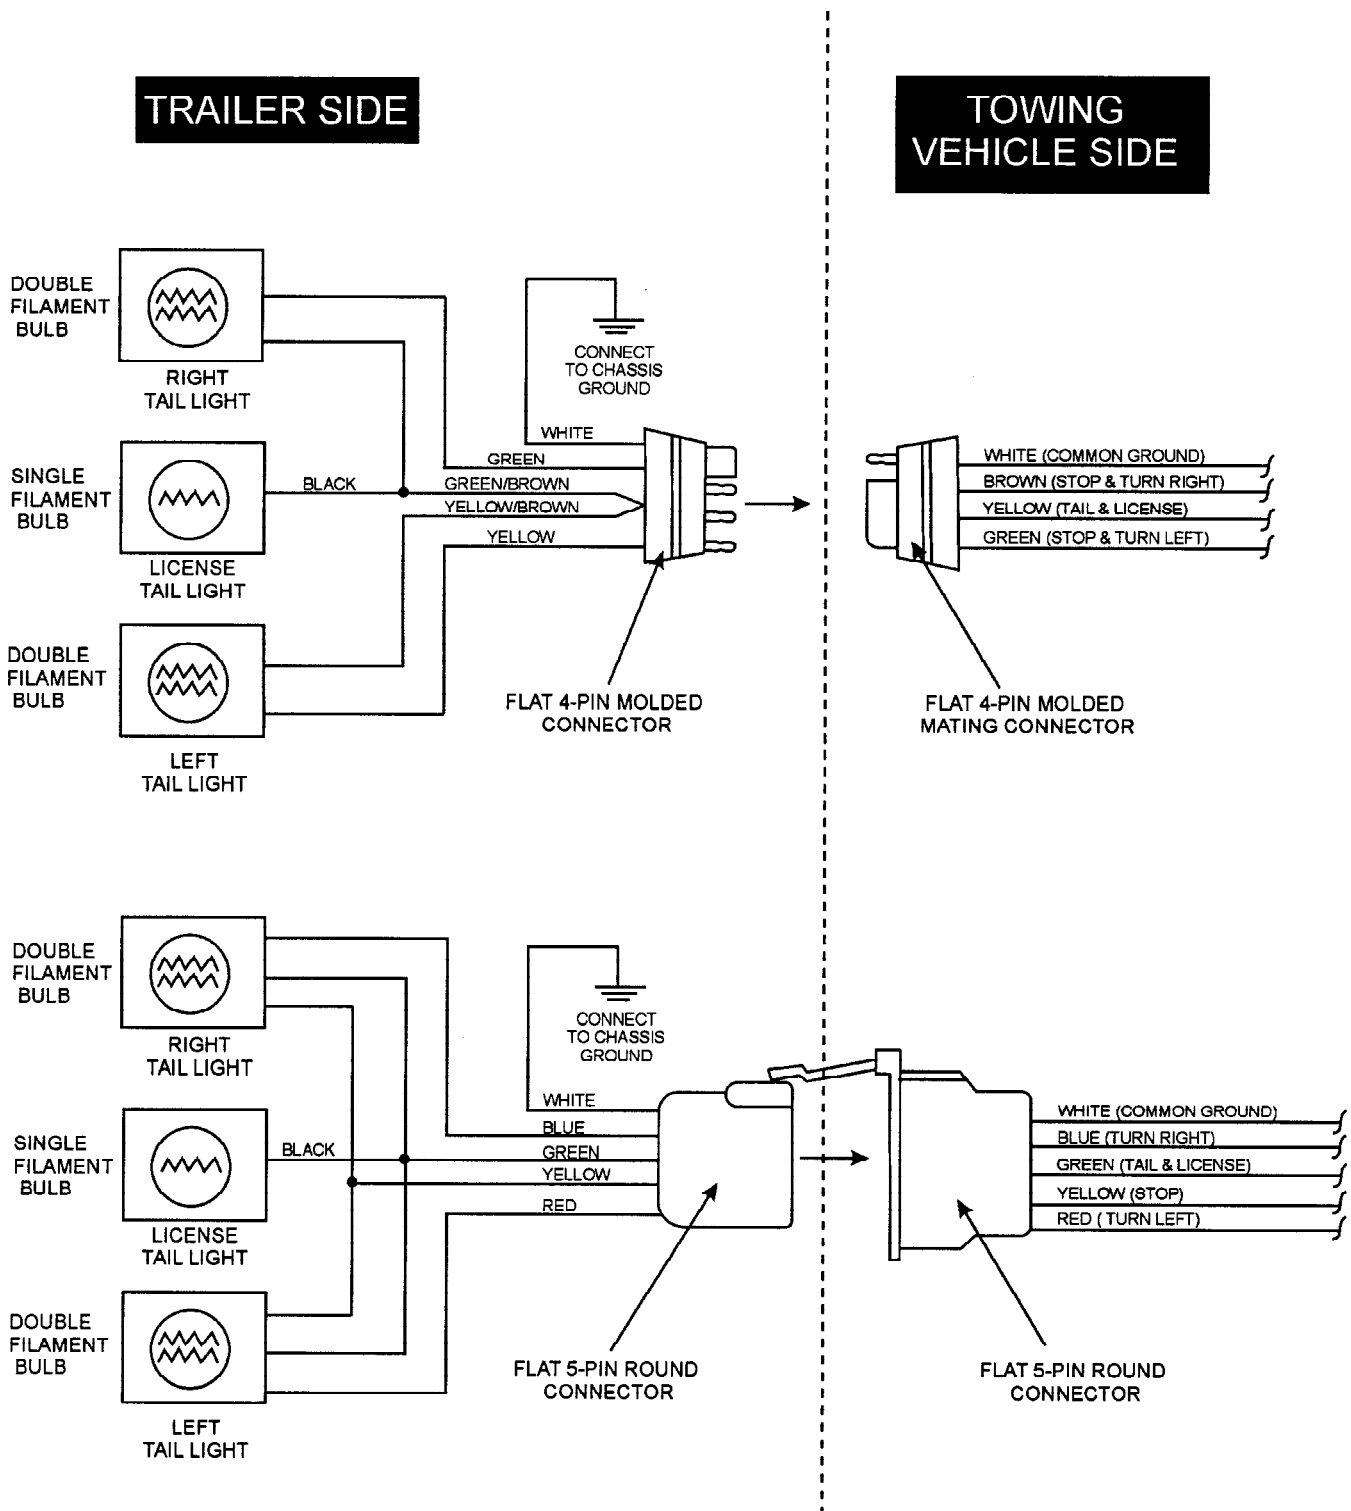

**Figure 3. Wheel Lug Nuts Tightening Sequence**
2. Torque all lug nuts in sequence. See Figure 3. **DO NOT** torque the wheel lug nuts all the way down. Tighten each lug nut in 3 separate passes as defined by Table 4.